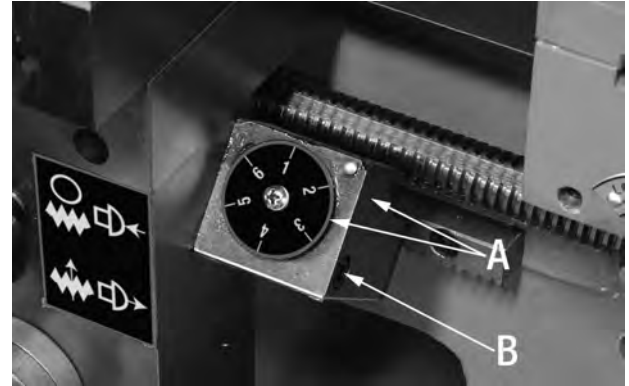

FIGURE 34
1. Make sure the thread dial indicator (A) Fig.34 is engaged with the leadscrew. If not, use a hex. key to loosen the cap screw (B) and rotate the thread dial indicator until the gear engages with the leadscrew, then tighten the cap screw to hold the dial in place.